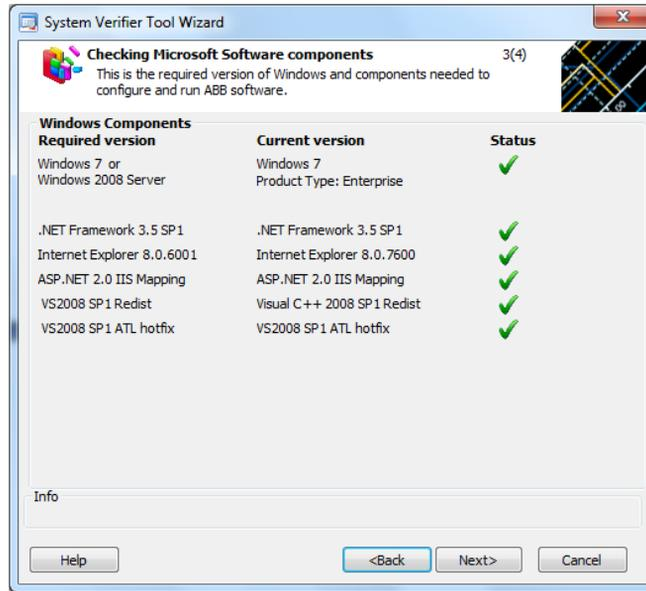

Figure 39. Checking Microsoft Software Components Dialog Box
1. After clicking **Next** in the Checking the Hardware dialog box, The Checking Microsoft Software Components dialog box (Figure 39) appears.